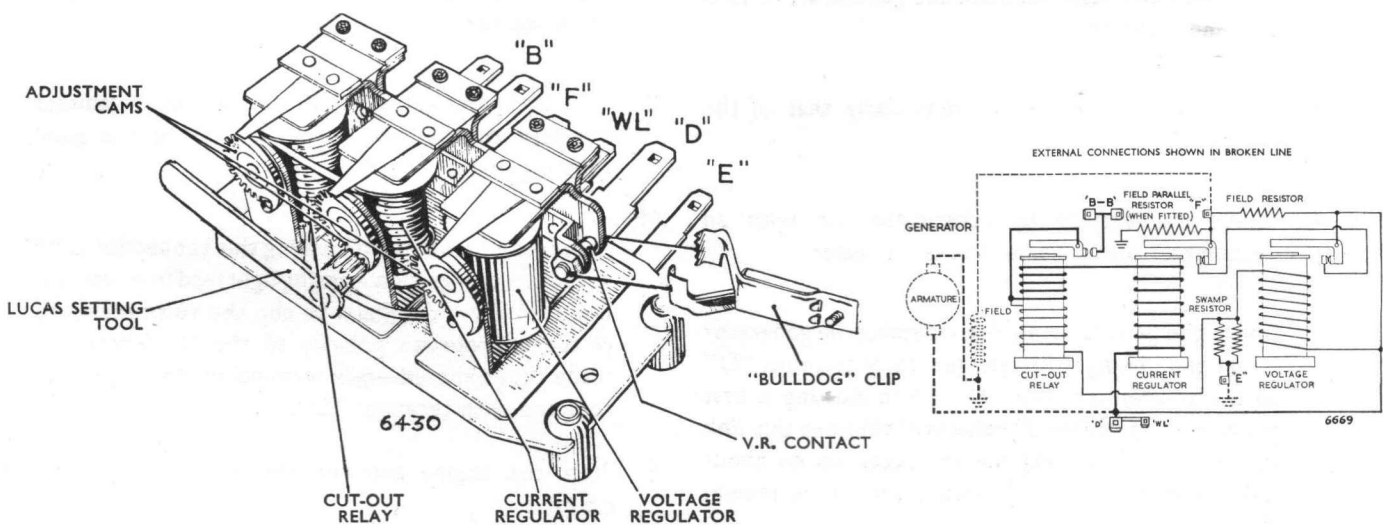

Fig. 12. Current-voltage control box and internal wiring diagram
**Method of adjustment (See Fig. 12)**